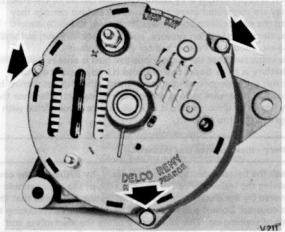

Fig. 10.1 Delco-Remy alternator through-bolts (Sec. 8)
- 3 Remove the three through-bolts (Fig. 10.1) and prise the front cover and rotor away from the rear end casing and stator.